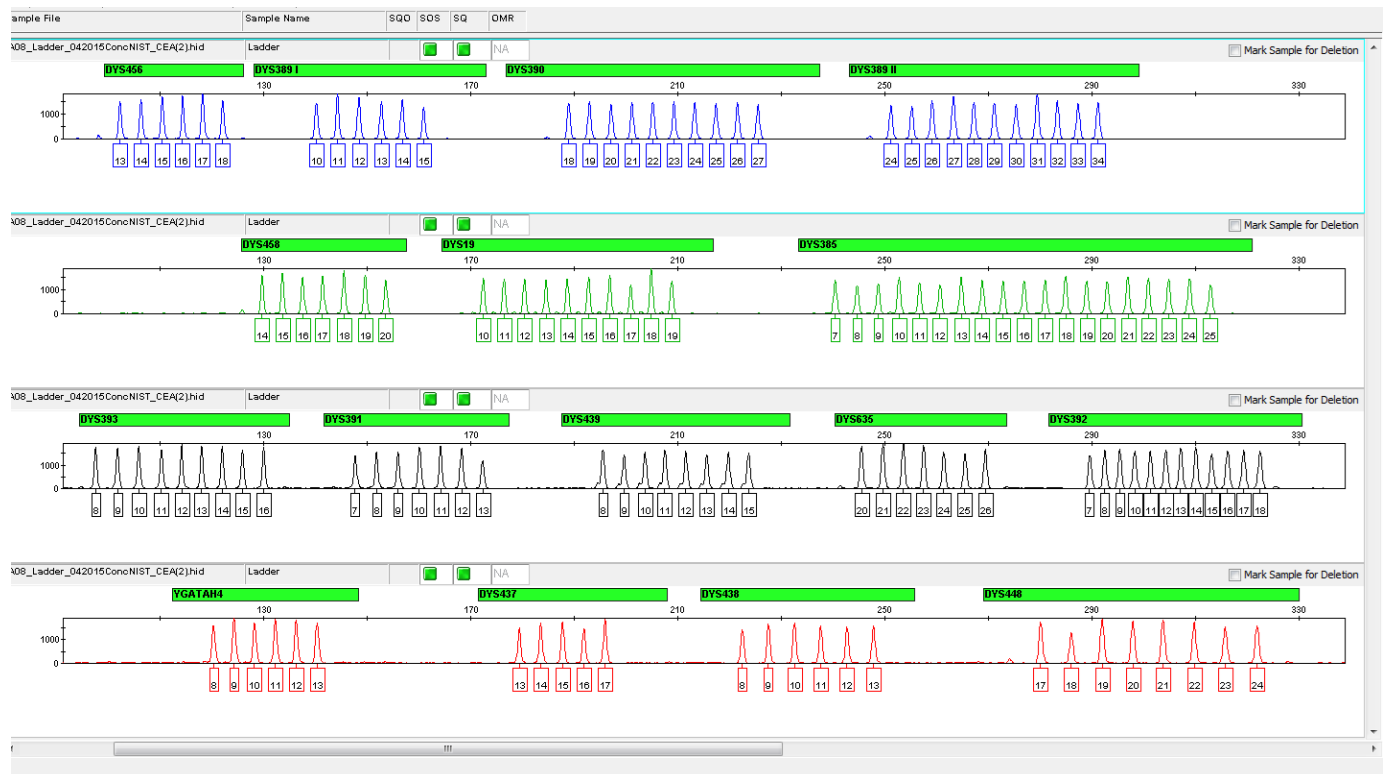

Figure 2. AmpfSTR® Yfiler™ Allelic Ladder
- 3.3.2 Verify that the allelic ladder is called correctly for each locus. Figure 2 represents an example of an AmpfSTR® Yfiler™ allelic ladder.